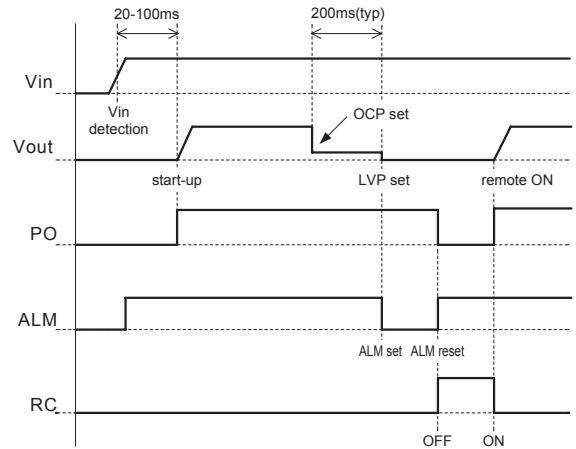

Fig.4.7 Sequence time chart
■The sequence time chart of Vin, Vout, PO, PR, ALM and RC pins is shown in Fig.4.7.